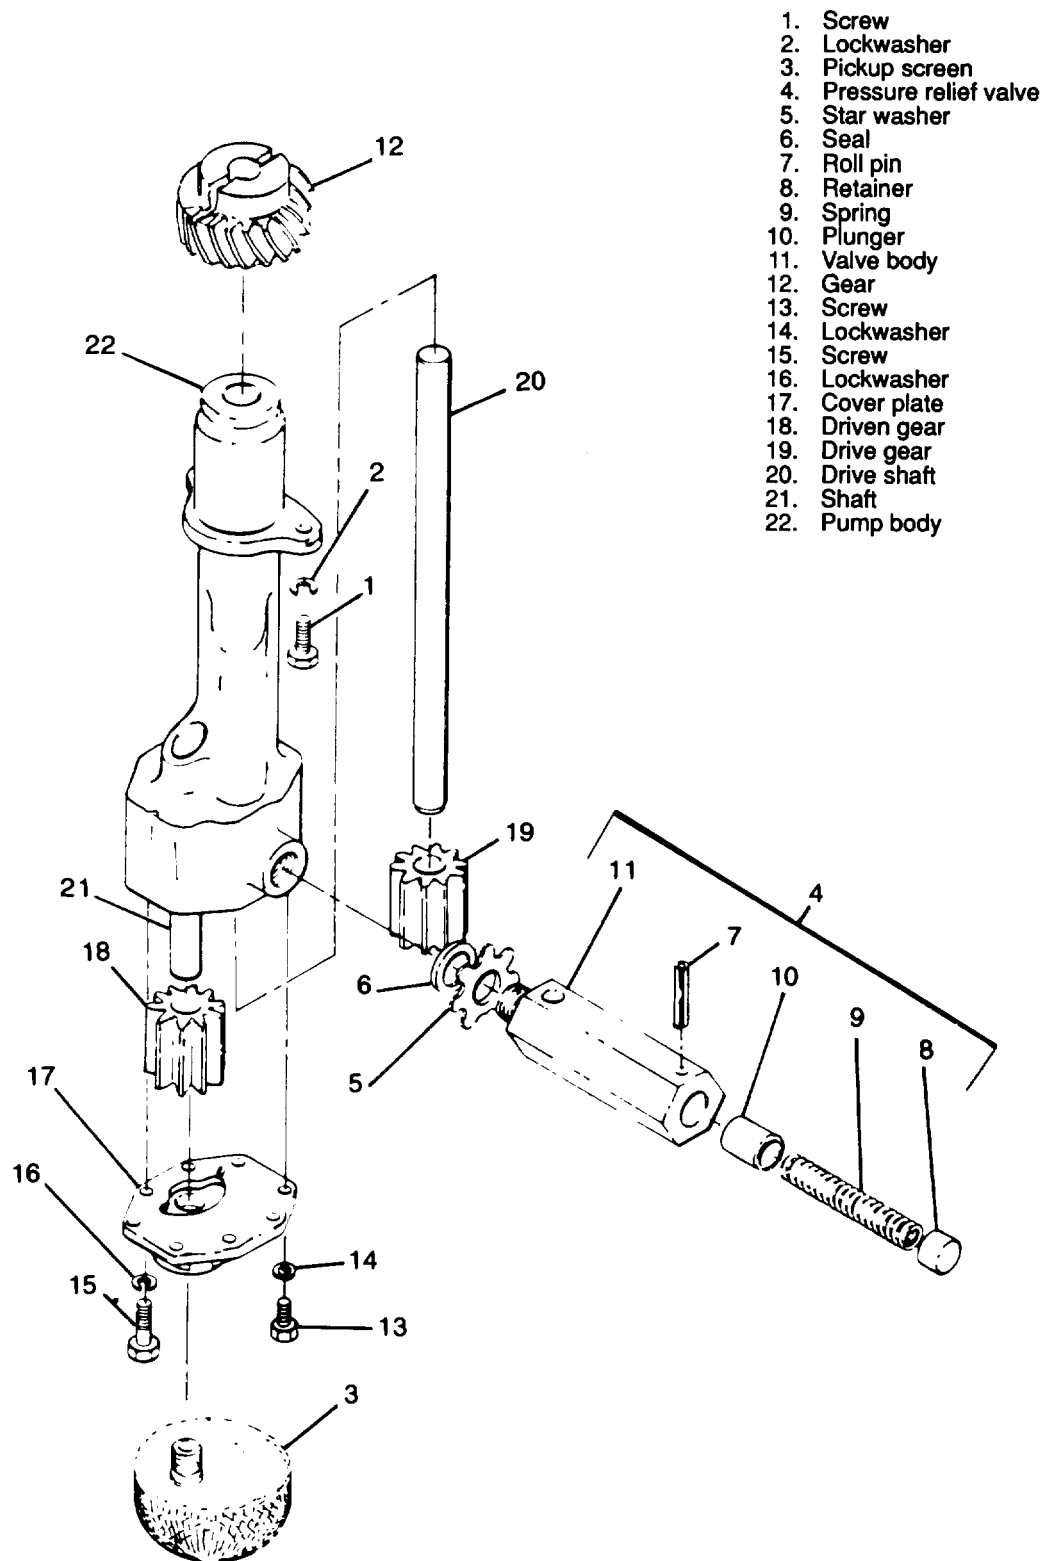

Figure 3-31. Oil Pump Assembly, Exploded View
- (1) Lower oil pan assembly (paragraph 3-37).
- (2) Remove screws (1, figure 3-31) and lockwashers (2) to remove oil pump.
- (1) Clean all parts in dry cleaning solvent (Federal Specification P-D-680) and dry thoroughly.
- (2) Inspect spring (9, figure 3-31) for cracks, breaks and distortion.
- (3) Inspect plunger (10) and bore of valve body (11) for scores, scratches, and deep wear patterns. Check that plunger moves freely in valve body.
- (4) Check gear (12) for chipped or broken teeth, excessive wear, or other damage.
- (5) Inspect cover plate for cracks and warpage. Check inner face for deep wear marks or scores from contact with gears.
- (6) Inspect gears (18 and 19) for chipped or broken teeth, excessive wear or other damage.
- (7) Inspect shafts (20 and 21) for cracks, scores and deep wear patterns. Check that shaft (20) rotates freely in pump body. Check that gear (18) rotates freely on shaft (21).
- (8) Inspect pump body (22) for cracks, breaks and other damage.
- (9) Check all threads for crossing, stripping or peening.
- (10) Inspect screen (3) for rips, tears, breaks and clogging.
- (11) Repair minor thread damage with a thread chaser.
- (12) Remove minor nicks and burrs with crocus cloth and oil. Clean the part in dry cleaning solvent and dry thoroughly with filtered compressed air.
- (1) Press drive gear (19, figure 3-31) onto shaft (20).
- (3) Press shaft (21, figure 3-31) into pump body and install driven gear (18).
- (4) Install cover plate (17) and secure with lockwashers (16 and 14) and screws (15 and 13).
- (5) Insert plunger (10) into valve body (11). Install spring (9) and retainer(8) and secure with roll pin (7).
- (6) Install new seal (6), lockwasher (5) and pressure relief valve (4).
- (7) Check that drive shaft rotates freely. If shaft binds, disassemble pump and ascertain cause before installing.
- (8) Install pickup screen (3) and tighten.